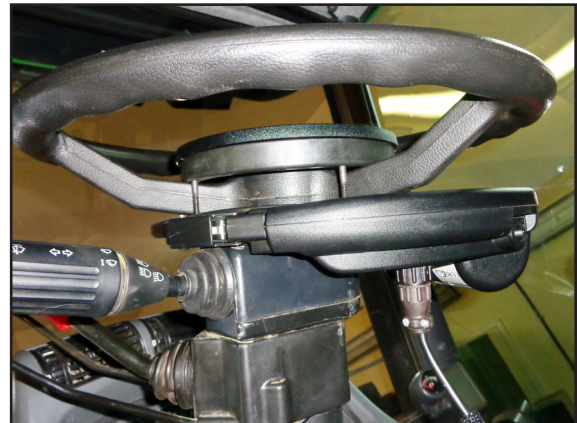

Fig. 11: Locking ring closed and RDU2 connected
- Close the locking ring of the motor element (see Fig. 11).
- Connect the connection cable of the RDU2 to the motor unit of the steering wheel motor (see Fig. 11) and the PSR harness. The RDU2 steering assistant is now ready for operation and can be switched on and off using the “ON/OFF switch” on the motor element.